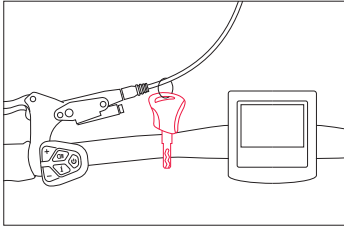

Figure 1
Step 1: Find the keys located on the handlebar (fig. 1) and remove them. If you cut them from the handlebars, be careful not to damage any of the wires.